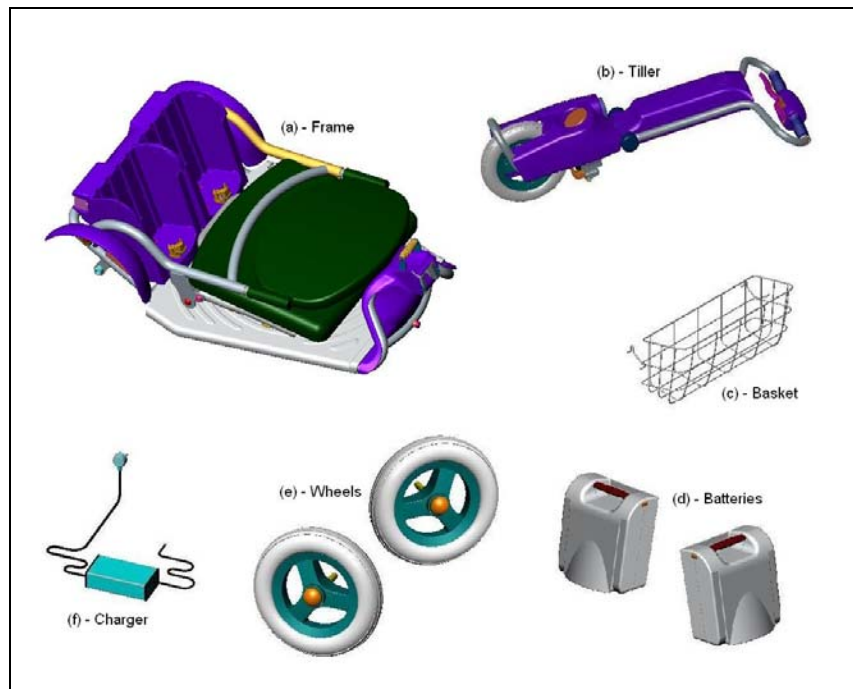

Figure 1
- Put all parts on the floor and put the empty box away, you should find the following parts (**see figure 1**):
The rear wheels (e - in **figure 1**) are to be assembled onto the frame (a - in **figure 1**).
The tiller (b - in **figure 1**) must be fixed to the frame (a - in **figure 1**).